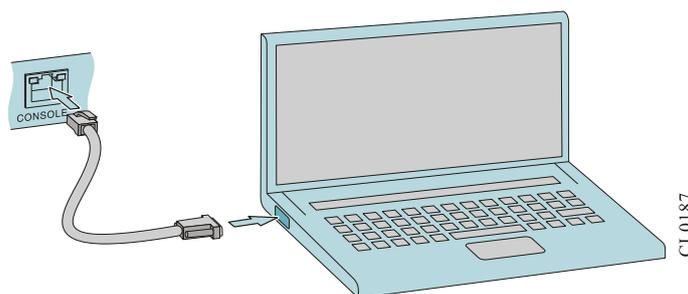

FIGURE 4-1 CONNECT WIRELESS CONTROLLER AND PC VIA RS-232 SERIAL PORT
- The configuration cable used by RS-232 serial port (configured with the device) is one eight-core unshielded cable. One side is the crimped RJ-45 plug, inserted to the Console port of the device; the other side is one DB-9 (female), inserted to the nine-core (male) serial port socket of the PC (or laptop), as shown in Figure 4-1.